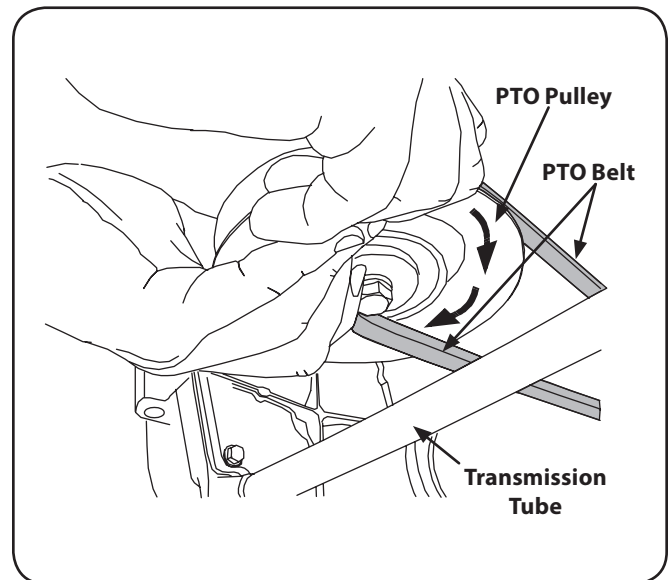

Figure 7-5
- d. While still holding the belt downward, continue turning the PTO pulley until the belt is rolled off the pulley. Refer to Figure 7-5.
10. Pull the right side of the belt rearward and place the narrow V side of the belt into the PTO pulley. See Figure 7-5.
11. While holding the belt and pulley together, rotate the pulley to the left (See Figure 7-5). Continue holding and rotating the pulley and belt until the belt is fully rolled into the PTO pulley.